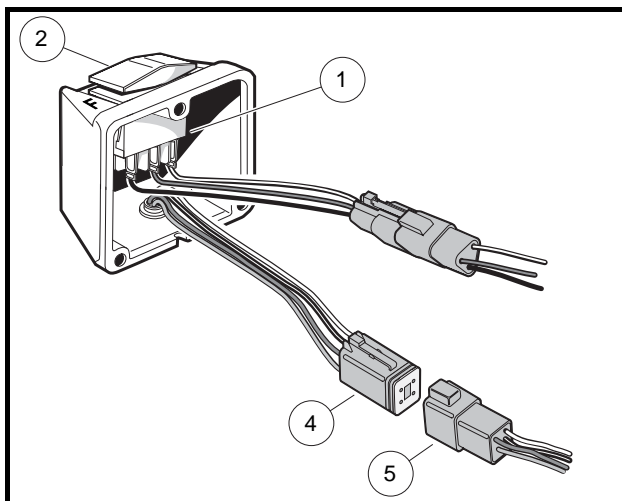

Figure 12-7 IQDM Jack On F&R Switch Housing
- 3.1. Remove the three self-tapping screws that hold the F&R rocker switch case (2) to the body (Figure 12-7, Page 12-18).